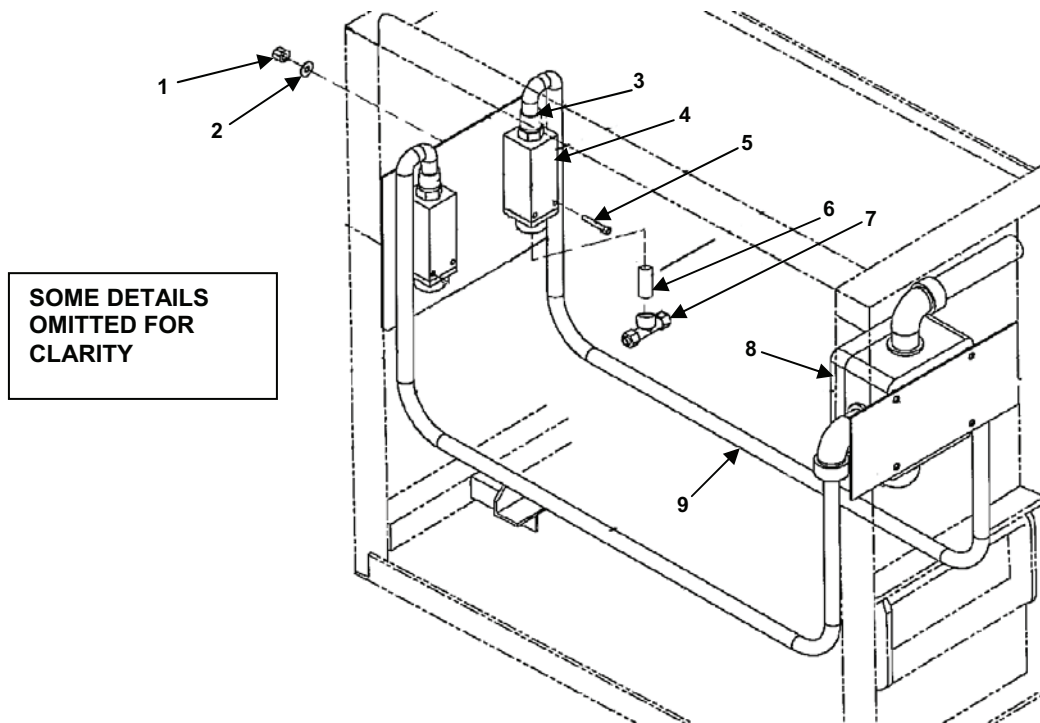

Figure 4. Low-Pressure Switch Removal.
5. Remove the conduit (Figure 4, item 9) from the junction box (Figure 4, item 8).
- Remove the conduit (Figure 4, item 9) from the low-pressure switch (Figure 4, item 4) at the top nut (Figure 4, item 3). Pull wires out from conduit (Figure 4, item 9).
- Remove tubing from tee fitting (Figure 4, item 7).
- Remove screws (Figure 4, item 5), nuts (Figure 4, item 1) and washers (Figure 4, item 2) from low-pressure switch.
- Remove tee fitting (Figure 4, item 7) and adapter (Figure 4, item 6).
Install the adapter (Figure 4, item 3) and elbow fitting (Figure 4, item 4) on the high-pressure switch (Figure 4, item 6).
2. Install low-pressure switch (Figure 4, item 4) and secure with screws (Figure 4, item 5), nuts (Figure 4, item 1), and washers (Figure 4, item 2).
3. Feed the wire through the conduit (9) and into the junction box (Figure 4, item 8).